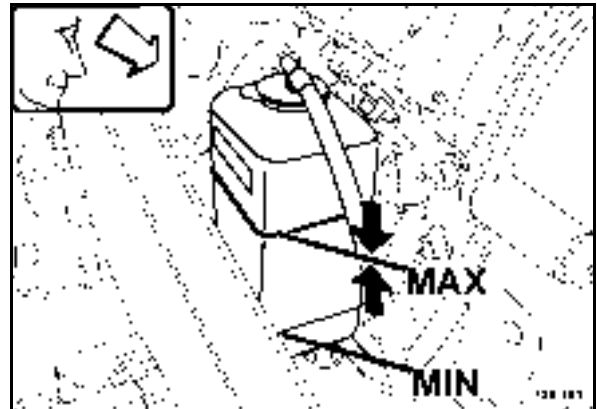

Fig. 133
- Fill in coolant up to the MAX mark (Fig. 133).